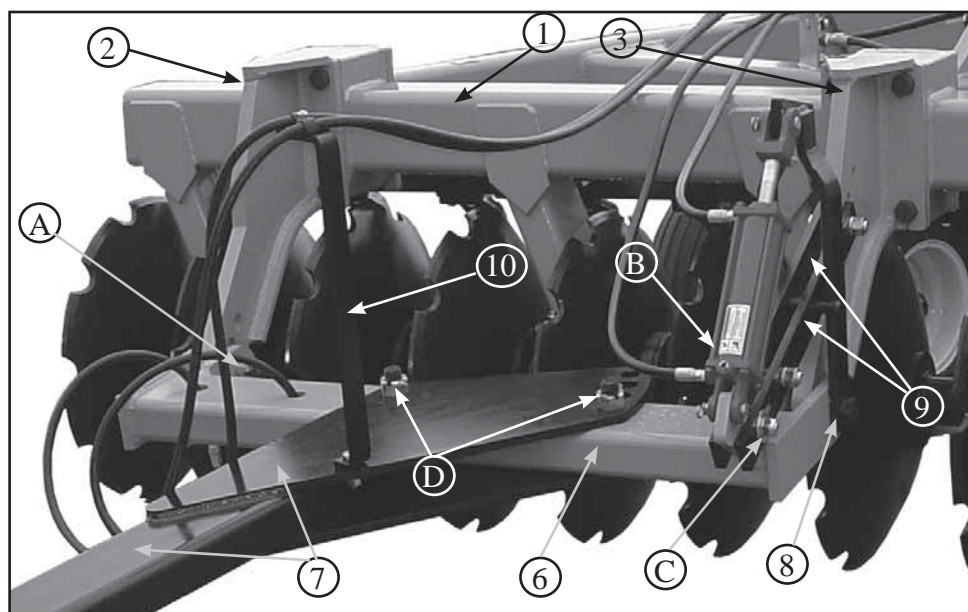

Figure 28
3.1.9 LEVELING BAR INSTALLATION (Fig. 28)
Install the bolt (C) in the upper end of leveling bar (9) using the elastic nut and tightening nut only enough so straps pivot freely with no side play. Install cotter pin. In the slotted hole in the leveling bar (9), install a bolt (C) with a flat washer (11) between both the bolt head and the nut next to the leveling bars (9). (See Fig. 28). Tighten the elastic nut to remove side play, but still allowing slide freely in leveling bar slots, install cotter pin.
3.1.11 TONGUE AND HOSE STAND (Fig. 28)
As a starting point, install the tongue in the left hand set of holes on the drawbar as shown in Figure 28. Install the hose stand as shown in Figure 28 on the pole plate.